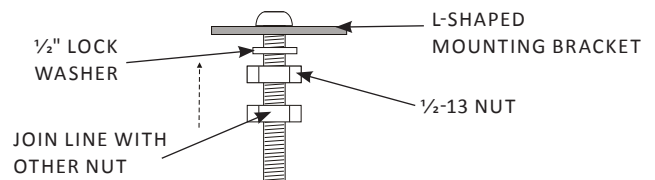

Figure 4-37
13. Add 1/2" lock washers and thread 2x 1/2-13 nuts onto each bolt below the L-shaped mounting bracket. **See Figure 4-37.**